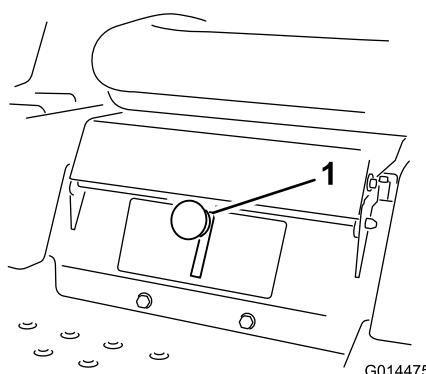

**Figure 19**
2. To go forward, slowly push the motion control levers forward (Figure 19).